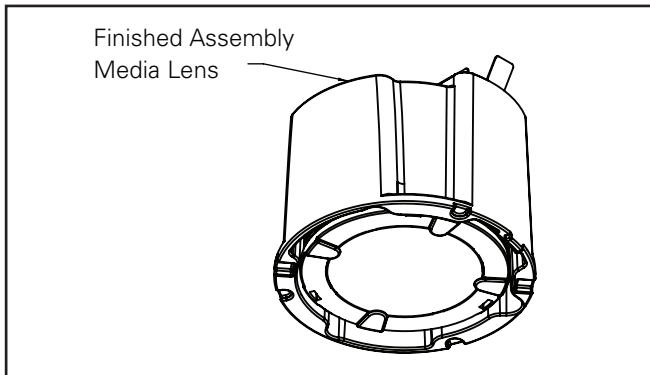

Figure 21
7. To install optic and media/film assembly to module follow steps in "Optic Assembly Replacement/Installation "(Figure 21 & 23)